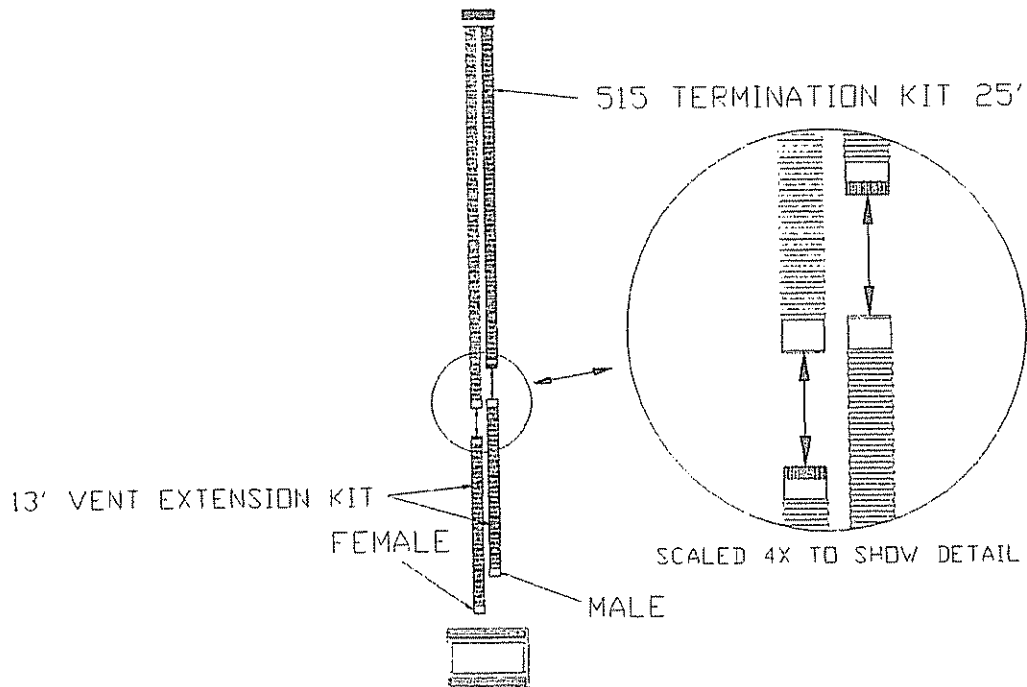

Figure 6A
#### F. RUN THE VENTING. See figures 6A - 6B.
**Exhaust extension:** Apply a liberal bead of sealant (provided) around exhaust adaptor (male) extension pipe and slide into female connector on end of 4" exhaust pipe already attached to chimney termination plates. To ensure an air-tight seal, additional sealant may be applied at the point of connection. See figure 6A
**Combustion air intake extension:** Apply a liberal bead of sealant (provided) around the male end of the extension kit and slide into female end of the 3" combustion air intake pipe attached to chimney termination plates. To ensure an air-tight seal, additional sealant may be applied at the point of connection. See figure 6A.